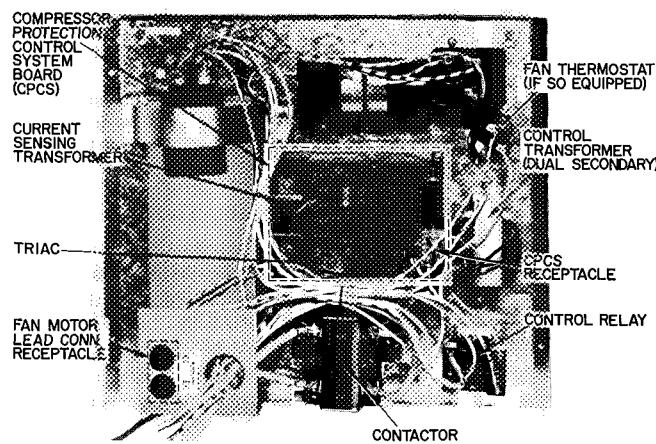

Fig. 7 – Control Panel (Cover Removed)
**Outdoor Fan Thermostat** (38SE055 and 38GR units) switches fan to high speed (Table 5) when outdoor temperature reaches 90 F – maintains proper condensing temperature at high outdoor air temperatures. Thermostat is located on Control Panel, Fig. 7.
**Compressor Protection Control System (CPCS – Solid State, Fig. 7)** provides: compressor motor locked rotor protection; compressor start winding protection; compressor motor running overload protection; compressor over-temperature protection; contactor anti-chatter protection.
2. Disconnect fan motor leads from control panel located on service door. See Fig. 7 and refer to Service Door on page 3. Remove 6 screws holding fan motor orifice assembly in place and lift assembly from unit.